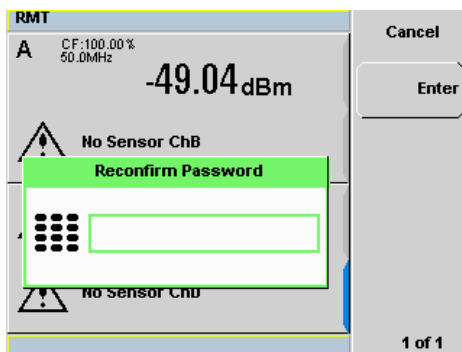

Figure 2-49 Reconfirm password
- 6 The reconfirm password pop-up will be displayed (see Figure 2-49). You will be prompted to enter the password again for confirmation.